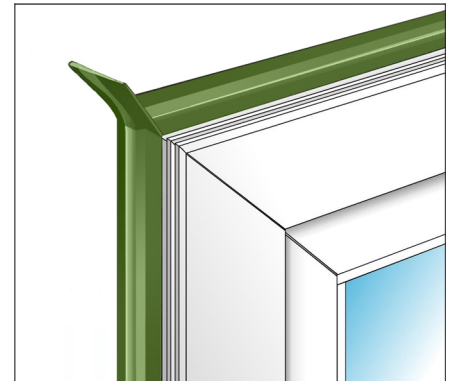

Fig 2: Form a 20 mm fold in the corner area
- Continue around the frame, applying to all sides and leave min 20 mm fold at each corner as fig 2.